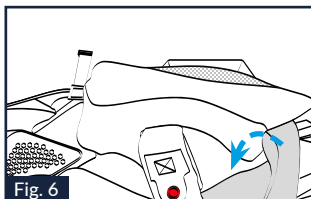

Fig. 6
5.4. Pull the back of the pad of the left cheek pad towards the inside of the helmet to undo the snap fastener on its back (Fig. 6).
12.3. Insert the chin strap in the passageway of the cheek pad padding and press near the rear snap fastener placed on the back to fasten it to the relevant seat on the polystyrene cheek pad (Fig. 6).